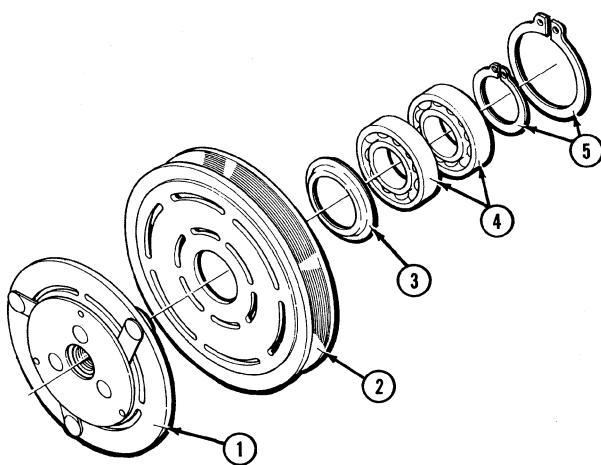

Figure 20
2. Measure the distance between the armature (1) and pulley (2), Figure 20. Clearance should be .014-.025 in. (0.35-0.65 mm).
3. Turn the pulley on its bearings. If excessive noise or wobble exists, replace the bearings (4), Figure 20 (to remove the bearings, remove snap rings (5), Figure 20, and remove the bearings from the armature shaft.)